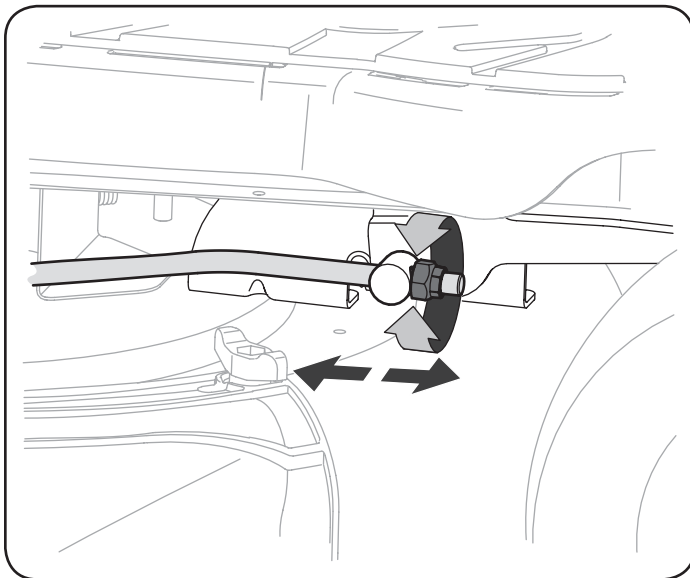

Figure 41
1. With the tractor parked on a firm, level surface, place the lever for lifting the cutting deck into the middle position (3) and rotate the blade so that it is aligned with the front and rear of the tractor.
3. Locate the flange lock nut on the front end of the PTO Lift Rod. See Figure 41.